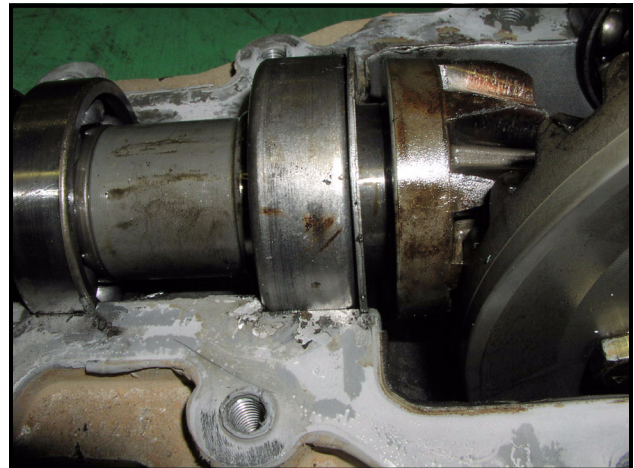

Figure 10-22 Align Pinion Bearing Washer In Groove
2. Seat bearings and align large thin pinion bearing washer in housing groove (**Figure 10-22, Page 10-9**).